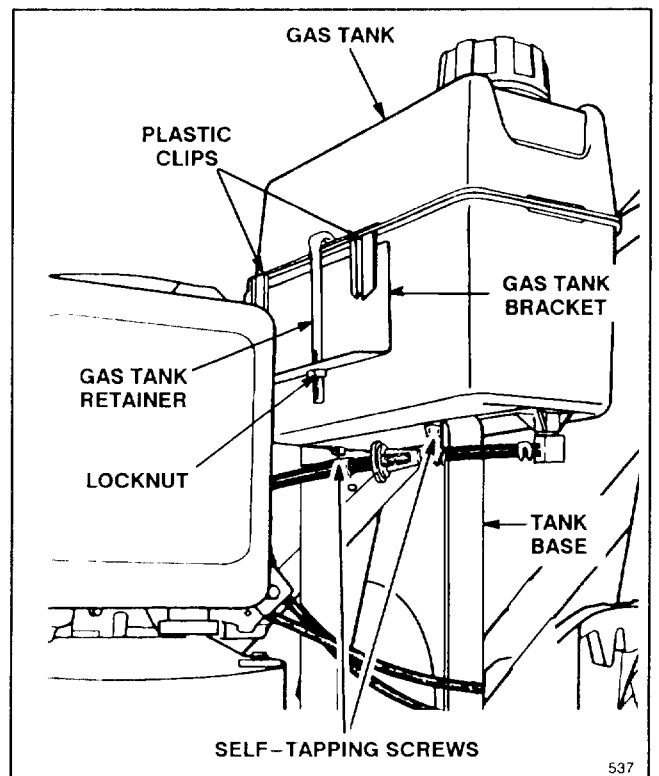

Figure 2
2. Hook plastic clips on front of gas tank onto gas tank bracket (Fig. 2).
- Secure gas tank to tank base with the (2) self-tapping screws (Fig. 2). Do not overtighten screws.
- Hook gas tank retainer onto rear of gas tank and slide end of retainer into hole in tank bracket. Secure retainer to tank bracket with locknut (Fig 2). Do not overtighten locknut.